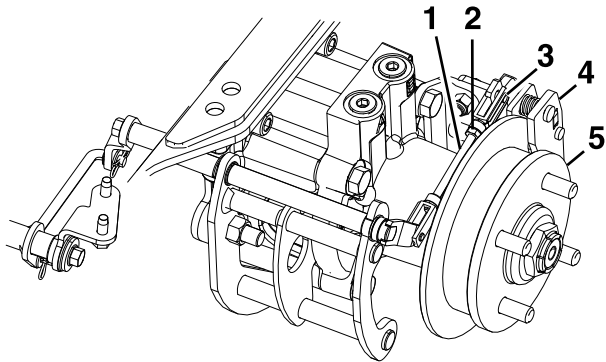

Figure 60
9. Install the rear linkage to the bellcrank and pin using the spring clevis pin (Figure 60).
10. Push the caliper lever forward with finger pressure only enough to take up the caliper clearance to the hub (Figure 60).
12. Adjust the rear linkage to align the holes and install the spring clevis pin (Figure 60).
13. Tighten the jam nut on the rear linkage (Figure 60).